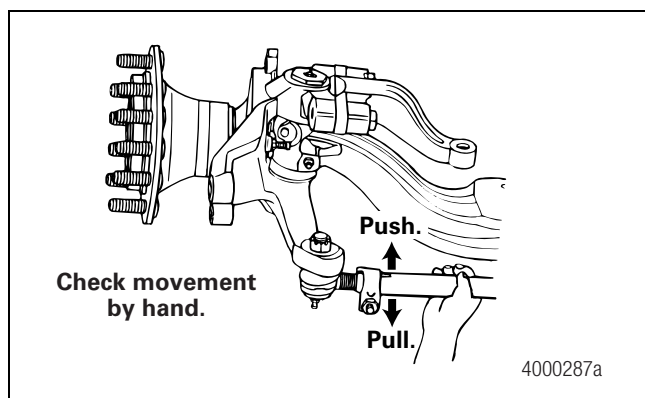

Figure 6.23
10. Apply hand pressure of approximately 100 lbs (45.4 kg) in a vertical PUSH and PULL motion several times. Check for any movement or looseness at both tie rod ends. Figure 6.23.
When the roadside check indicates tie rod movement of 0.125-inch (3 mm) or more, immediately remove the vehicle from service to replace the tie rod. Figure 6.23.